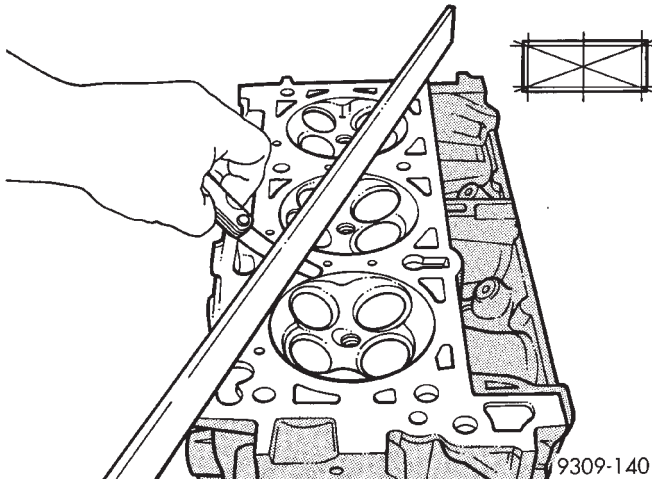

Fig. 107 Checking Cylinder Head Flatness
(1) Before cleaning, check for leaks, damage and cracks.
(2) Clean cylinder head and oil passages.
(3) Check cylinder head for flatness (Fig. 107).
(4) Cylinder head must be flat within: